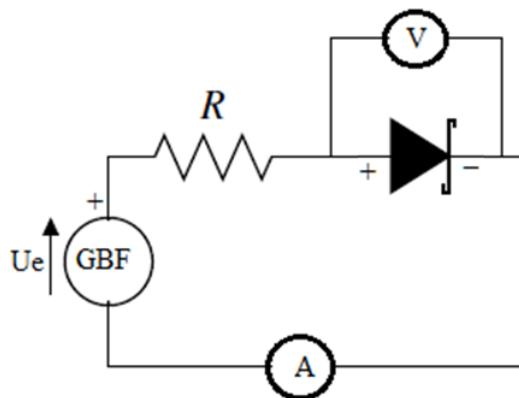

Figure 9: Electrical circuit of a forward-biased Zener diode.
- Set up the electrical circuit as shown in Figure 9, placing the Zener diode ZPD 6.2 first, followed by the Zener diode ZPD 9.1, both in forward bias.